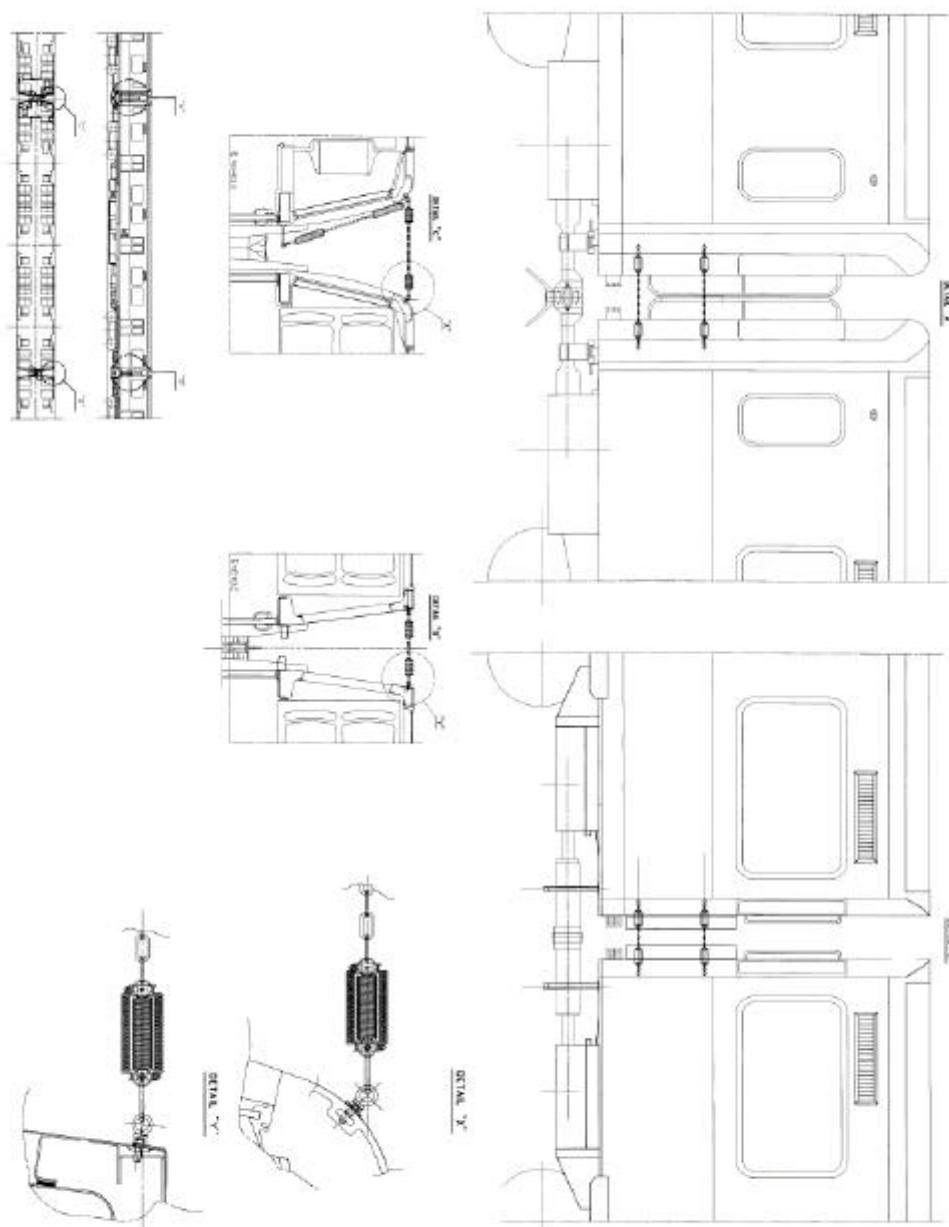

Figure 2-9. Intercar Barriers
The devices consist of pairs of chains, mounted on A car and B car. Chains have different lengths according to location between cars of the same dependent pair or between cars of different dependent pairs (see Fig. 2-9).
- Long chains (see Fig. 2-9, detail A)
- Short chains (see Fig. 2-9, detail B)
Spiral springs, covered with corrugated rubber hose and provided with a spring catch, are fixed to the ends of both types of chain (see Fig. 2-9, detail C).